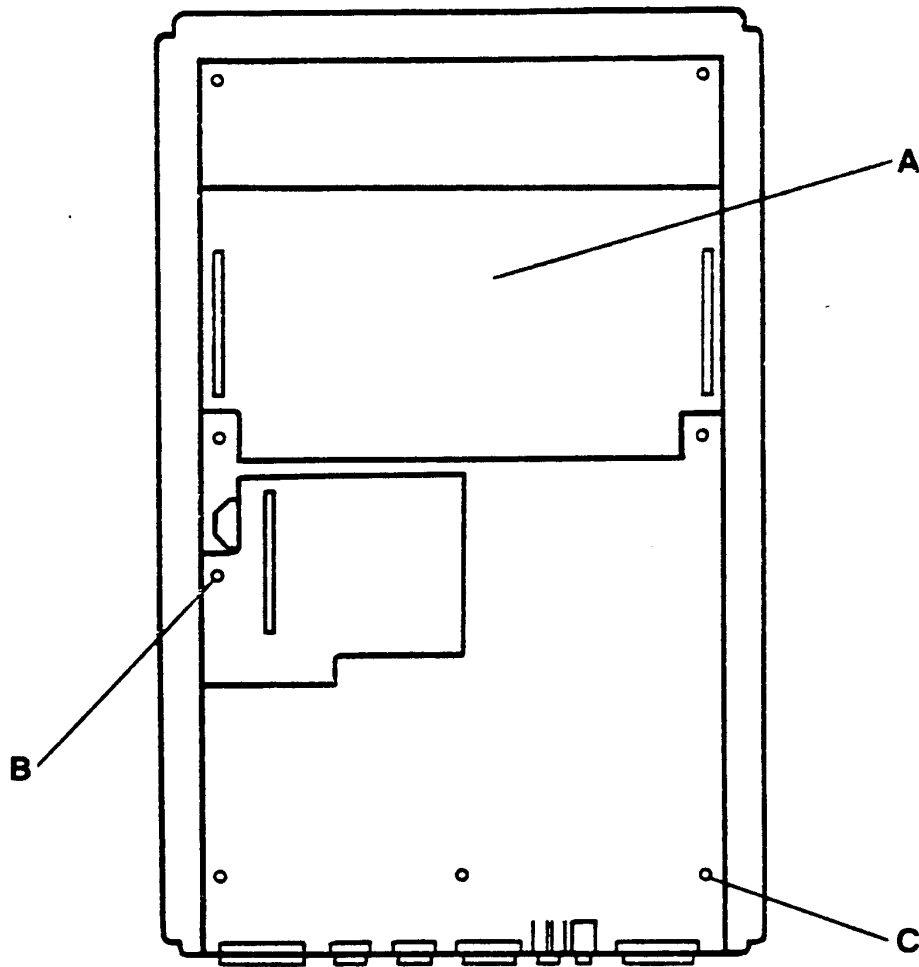

FIGURE 8.1
1. With the Logic Assembly placed flat on the work surface, use both hands to lift off the Memory board (Figure 8.1 item A) from the Main Logic board.
1. Locate Encoder board mount standoff. Refer to Figure 8.1 item B.
3. Locate the retaining screw. Refer to Figure 8.1 item C. Remove and retain. Slide the board out from the peripheral connector opening of the access panel.